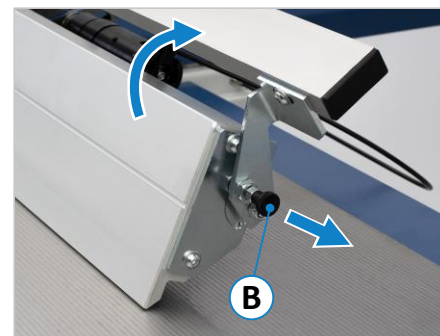

Figure 23: Auxiliary fence
- When not in use, pull the locking bolt (B) outwards, swivel the fence to the upper position (see ⇒ Figure 23) and engage the locking bolt (B) back into place.